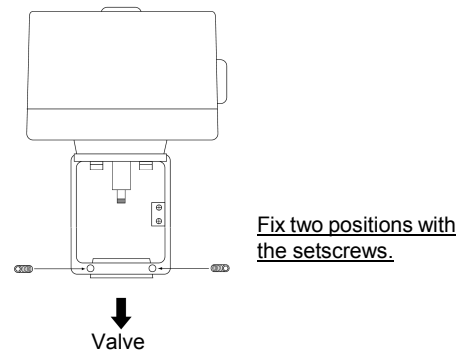

Figure 5. Fixing the actuator and yoke onto the valve
3. Mount the yoke with the actuator attached to on the valve and fix it with 2 hexagon socket setscrews (M8 × 25) using the hexagonal wrench for M5. (See Fig. 5.)